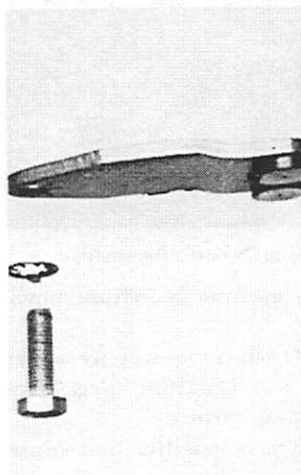
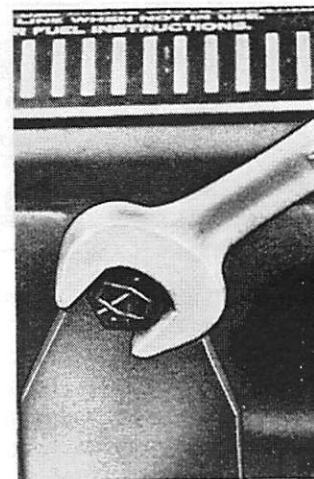

Figure 11. Co-Pilot
Figure 12. Adjusting Co-Pilot
1. If co-pilot is not already installed (Figure 11), slide clamp plate assembly from kit thru slot (friction button side down) in bottom face of swivel bracket. (Figure 12)
2. Fasten clamp plate assembly to swivel bracket with 5/16-24x1" screw and 5/16" internal lockwasher. (Figure 11)
4. Tighten adjusting screw (Figure 12) to increase friction; loosen to decrease friction.